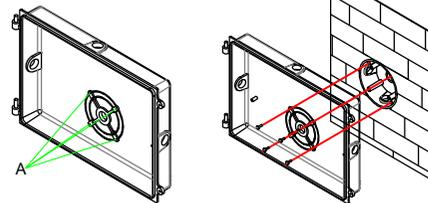
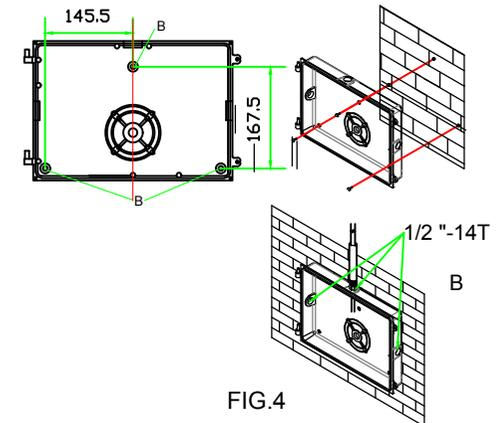

FIG. 3
FIG. 4
3. Look at the back of the rear housing to locate the pre-cast locators which allow for lag-bolt surface mounting. Using a hammer and punch, prepare the housing by knocking out only the appropriate mounting holes.(FIG.3).or(FIG.4).Attach conduit to fixture and secure fixture to wall.